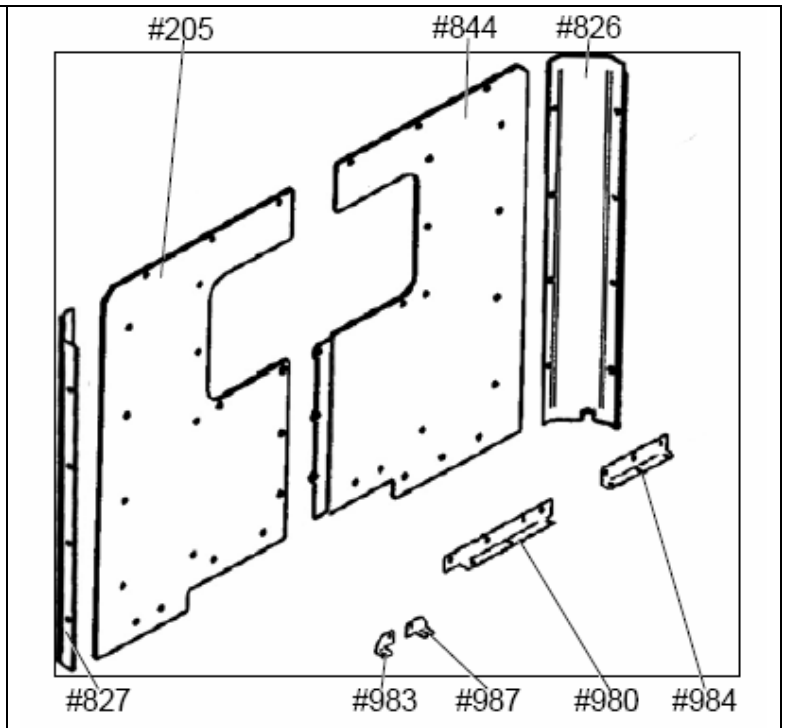
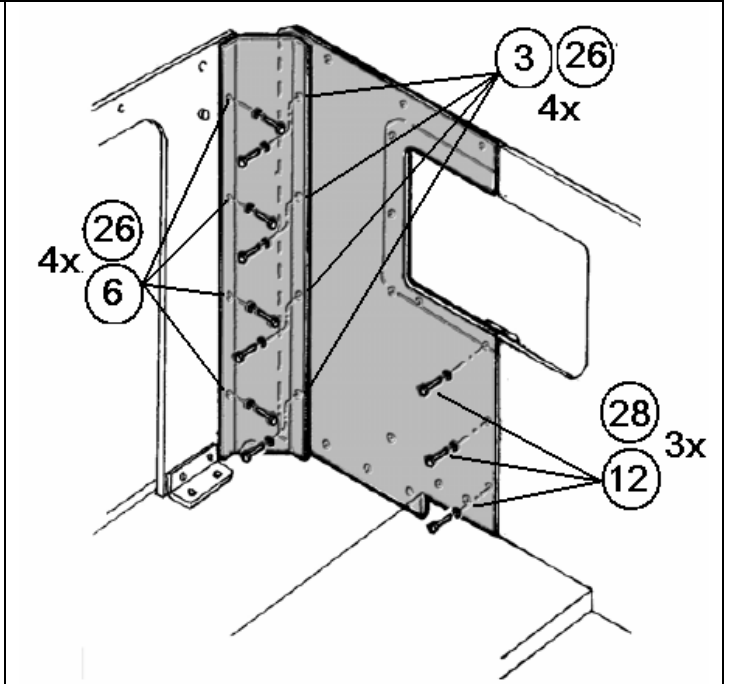

Figure 5-27. Backside Kit Installation – Parts.
Figure 5-29. Backside Kit Installation (2 of 3).
Parts (see Figure 5-27)
2. Place panel #205 against the aft cabin wall, right corner, as shown in Figure 5-29. Note that panel #205 will overlap panel #844 in the center. Align the right rear B-pillar #827. Install fasteners through the B-pillar and into rear and side panel as shown. Do not torque the fasteners at this time.
3. Install counter-sunk washers and screws (items 12 and 28) to connect the panels at the center joint.
4. Install brackets, #980, #983, #984 and #987 in locations as shown in Figure 5-27. Secure with bolts and washers as defined in Figure 5-30.